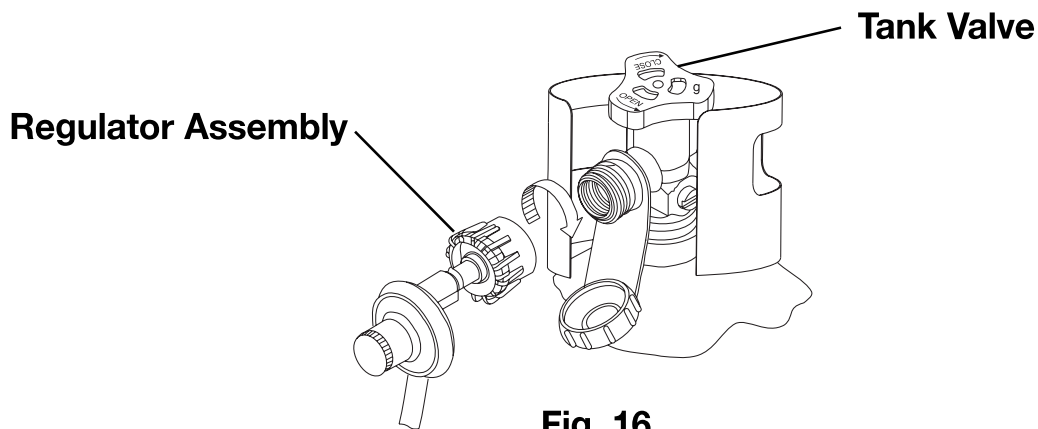

Fig. 16
6. When connecting regulator assembly to the valve, hand-tighten nut clockwise to a positive stop as shown in **Fig. 16**. Do not use a wrench to tighten. Use of a wrench may damage the quick-coupling nut and result in a hazardous condition.